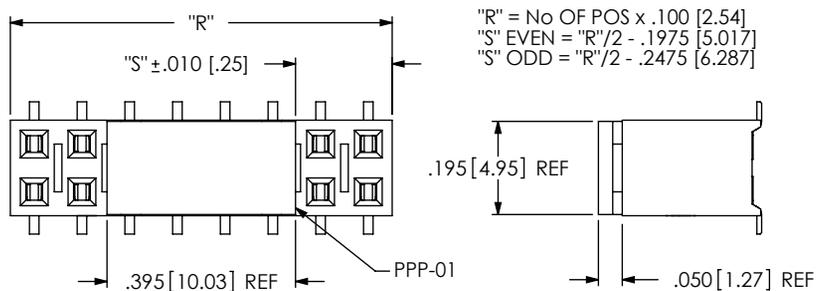

FIGURE 6
- K: POLYIMIDE FILM PAD (POS 2 THROUGH 40 - SEE NOTE 5) [Z] (USE K-500-300, SEE FIG. 6, SHT 2)